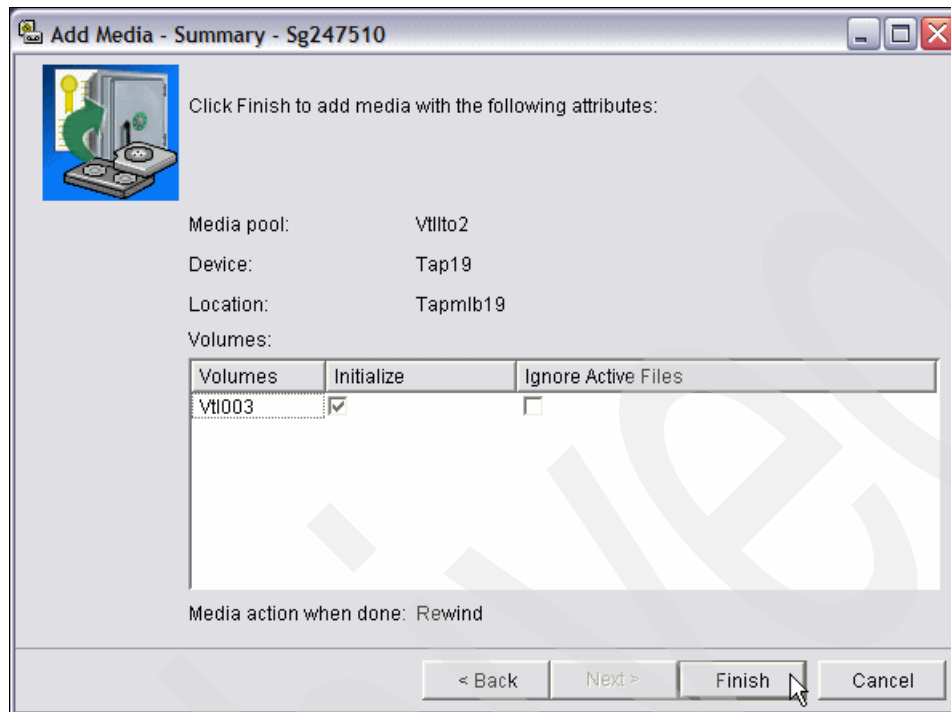

Figure 6-41 Add Media - Summary
10. The Add Media Summary window shown in Figure 6-41 opens. Click **Finish** or click the **Back** button to change your options. Assuming that you clicked Next, the summary window shown in Figure 6-41 opens.